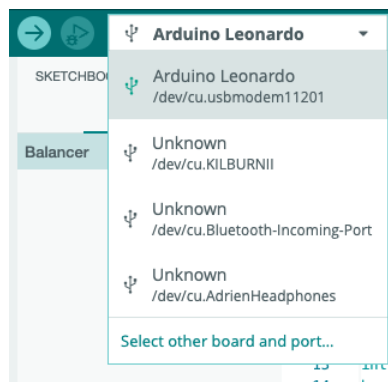

Figure 11: The Arduino Leonardo board appears next to other boards/ports such as Bluetooth and USB ports.
1. Connect the robot to your computer with the given USB cable. You should see **Arduino Leonardo** appear in the list on the upper left corner of the IDE, such as shown in Figure 11. Select it. If it didn't appear, manually select the appropriate COM port and specify **Arduino Leonardo** as a board.
2. Click on the **Upload** button on the left of the list. It is the arrow in Figure 11.